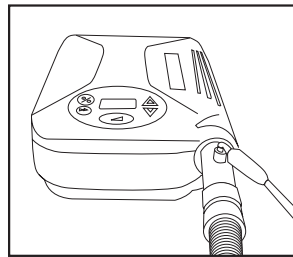

Figure 10
3. Oxygen may be injected into the air supply by connecting one end of standard oxygen tubing to the oxygen adapter and the other end to the oxygen source (Figure 10).